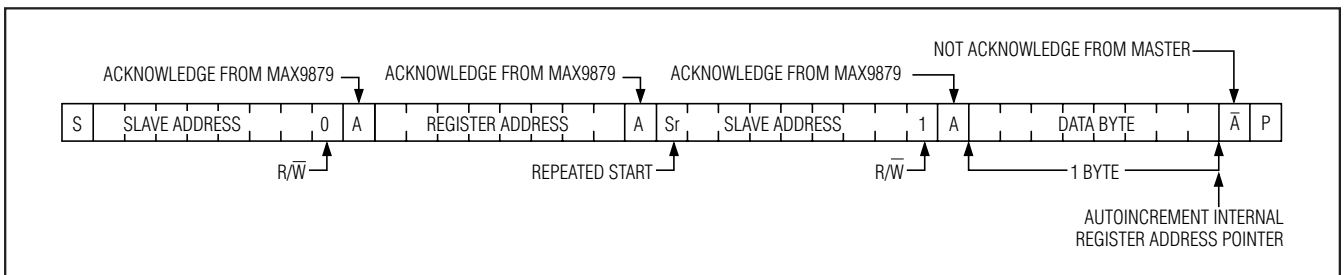
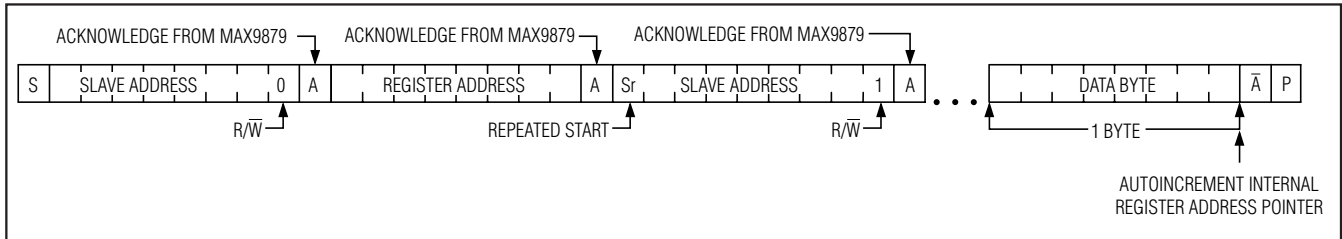

Figure 11. Reading One Indexed Byte of Data from the MAX9879
Figure 12. Reading n Bytes of Indexed Data from the MAX9879
The address pointer can be preset to a specific register before a read command is issued. The master presets the address pointer by first sending the MAX9879's slave address with the R/\bar{W} bit set to 0 followed by the register address. A REPEATED START (S_r) condition is then sent followed by the slave address with the R/\bar{W} bit set to 1. The MAX9879 then transmits the contents of the specified register. The address pointer autoincrements after transmitting the first byte. The master acknowledges receipt of each read byte during the acknowledge clock pulse. The master must acknowledge all correctly received bytes except the last byte. The final byte must be followed by a not acknowledge from the master and then a STOP (P) condition. Figure 11 illustrates the frame format for reading one byte from the MAX9879. Figure 12 illustrates the frame format for reading multiple bytes from the MAX9879.